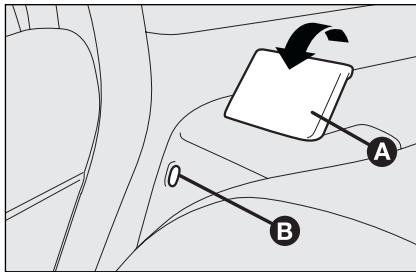

fig. 3
**IMPORTANT** When the seat back is coupled properly, the “red band” **B**-fig. 3 present aside lever **A** disappears. The “red band” actually indicates improper seat back coupling.
*Make sure the seat back is correctly hooked on both sides (“red bands” B-fig. 3 not visible) to prevent seat back being thrown forwards and injuring passengers should you brake sharply.*